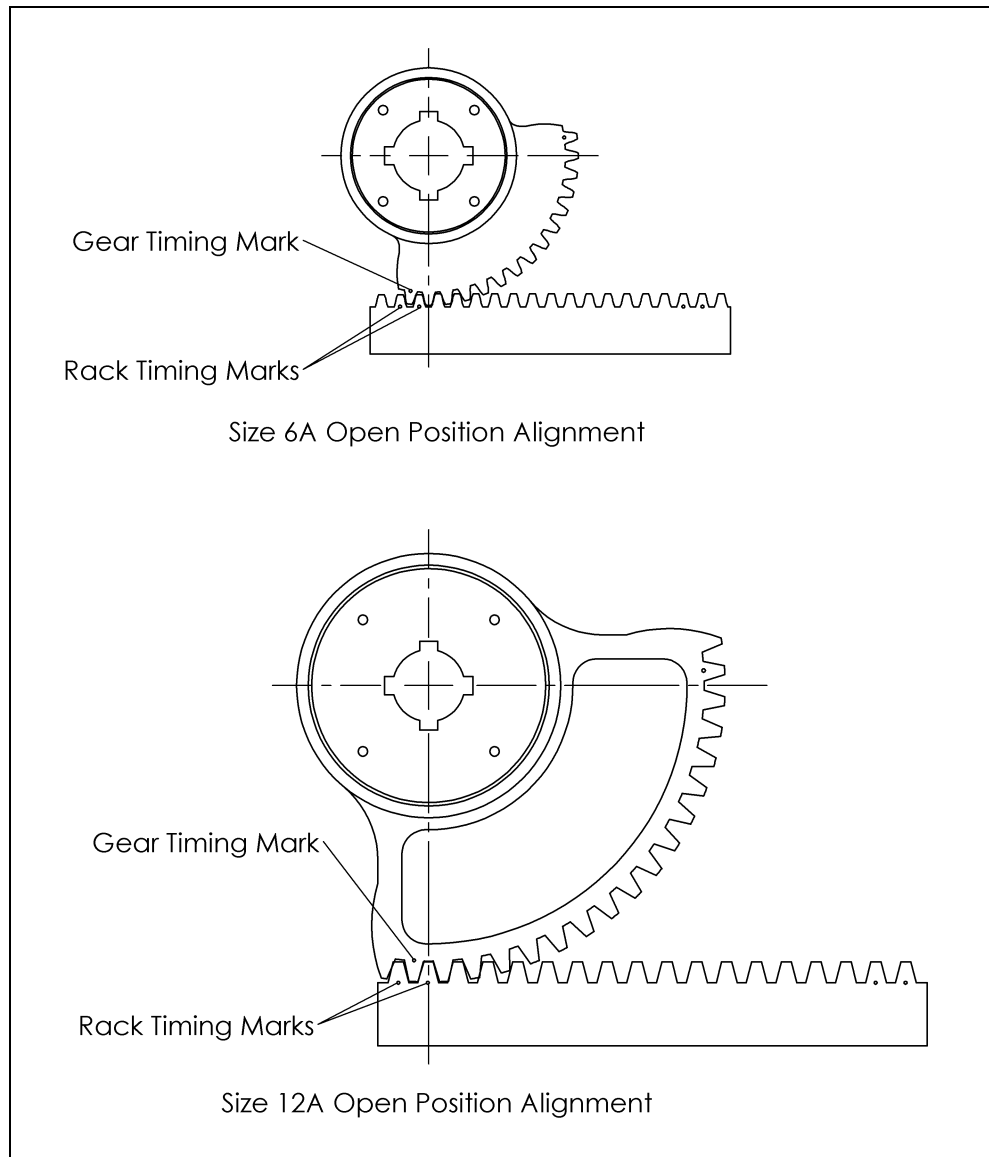

Figure 7 – Gear and Rack Alignment
6. Apply a liberal amount of lubricant to the teeth and journals of the gear (B3), then place the gear in the housing (B1) and carefully align the teeth with the rack as shown in Figure 7.